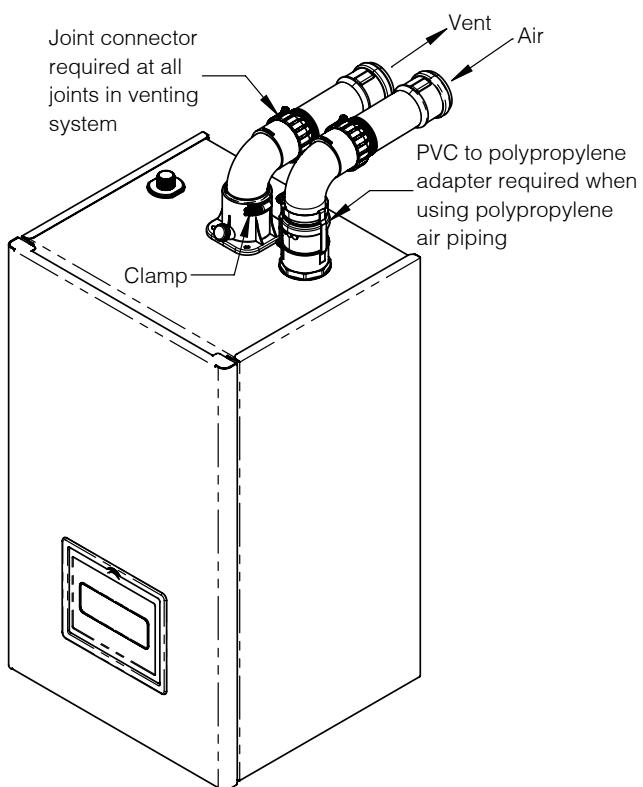

Figure 7-18: Near Boiler Polypropylene Venting
6. Boiler vent connector is gasketed. Lubricate gasket with soapy water, insert pipe until it bottoms out, and tighten clamp. See Figure 7-18.